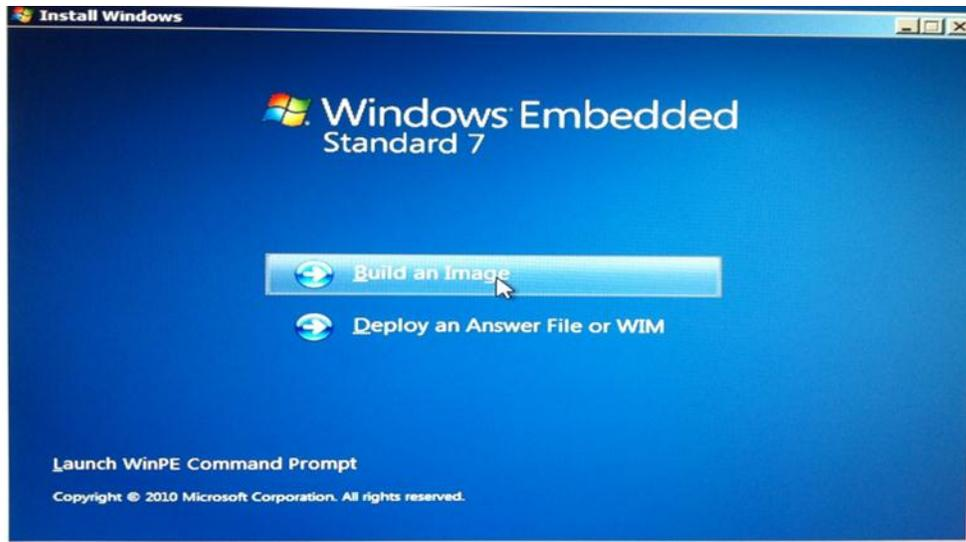

Figure 32: Build an image
2. Boot the system with the WES7 DVD you have created. Choose Build an Image as shown in Figure 32.